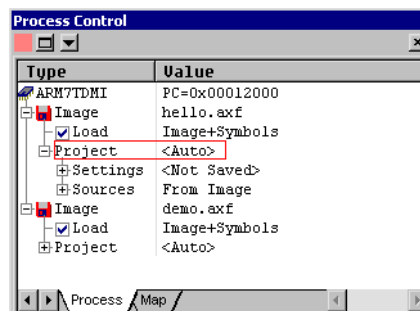

Figure 2-7 Multiple images in the Process Control pane
4. Expand the display to see the process details, shown in Figure 2-7.